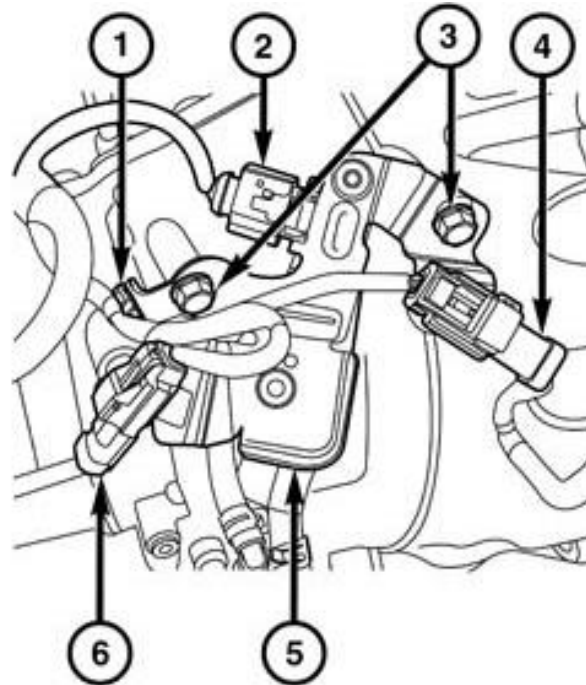

Figure 40 – EGT/CEGT Sensor Connectors
- 83. Disconnect the Exhaust Gas Temperature (EGT) sensor 1/2 wire harness connector (4) and detach from bracket (5) (Figure 40).
- 84. Disconnect the Catalyst Exhaust Gas Temperature (CEGT) sensor wire harness connector (6) and detach from bracket (5) (Figure 40).
- 85. Disconnect the Differential Pressure Sensor (DPS) wire harness connector (2) (Figure 40).
- 86. Remove the bolts (3) and the DPS sensor with bracket (5) (Figure 40).
25. Install the Differential Pressure Sensor (DPS) and bracket (5) and tighten the bolt (3) to 18 N·m (13 ft. lbs.) (Figure 40).
26. Connect the DPS sensor wire harness connector (2) (Figure 40).
27. Connect the Catalyst Exhaust Gas Temperature (CEGT) sensor wire harness connector (6) and attach to the bracket (5) (Figure 40).
28. Connect the Exhaust Gas Temperature (EGT) sensor 1/2 wire harness connector (4) and attach to the bracket (5) (Figure 40).